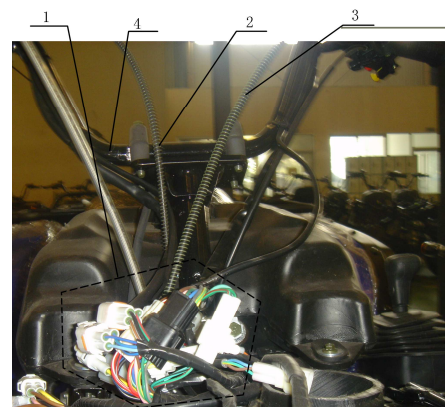

Figure 4-1-3)
(Figure 4-1-3)
3. Unplug all cables and wires and remove the steering bar (Figure 4-1-3)